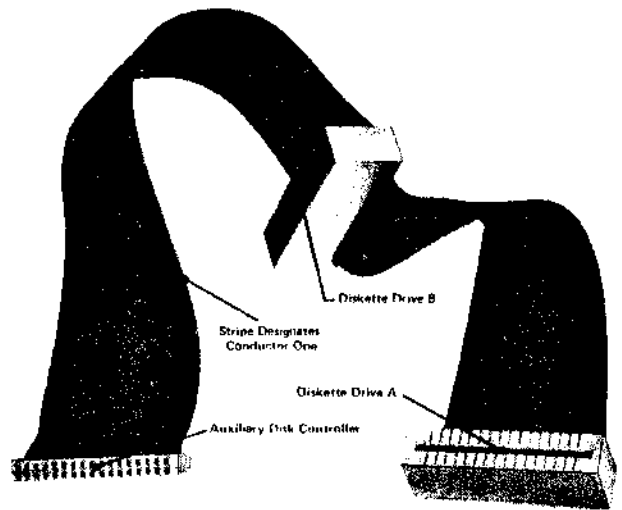

Figure 2-10 – 5.25-Inch Disk I/O Cable – 800437
2.14 5.25-Inch Disk I/O Cable illustrated in Figure 2-10 interconnects the Auxiliary Disk Controller with the 5.25-inch drives. This cable has 34 conductors and is 14 inches long.